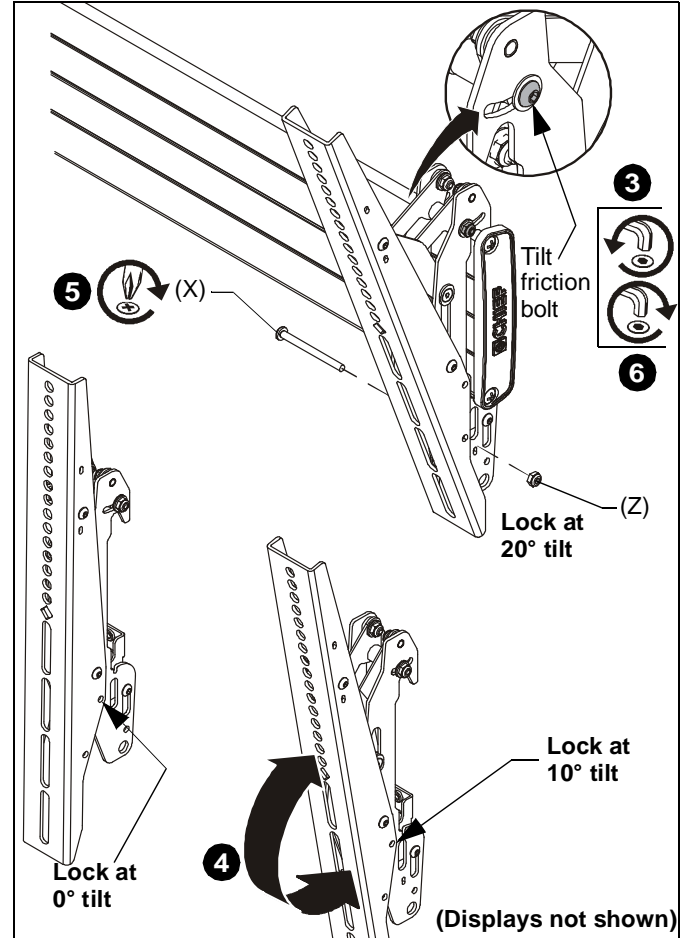

Figure 11
3. If necessary, loosen button head tilt friction bolt (located on side of interface bracket). (See Figure 11)
4. Adjust tilt as required. (See Figure 11)
5. The tilt may be locked at 0°, 10° and 20° using one 10-24 x 2-1/4" Phillips head screw (X) and one 10-24 lock nut (Z) per interface bracket. (See Figure 11)
6. Tighten button head tilt friction bolt as necessary. (See Figure 11)